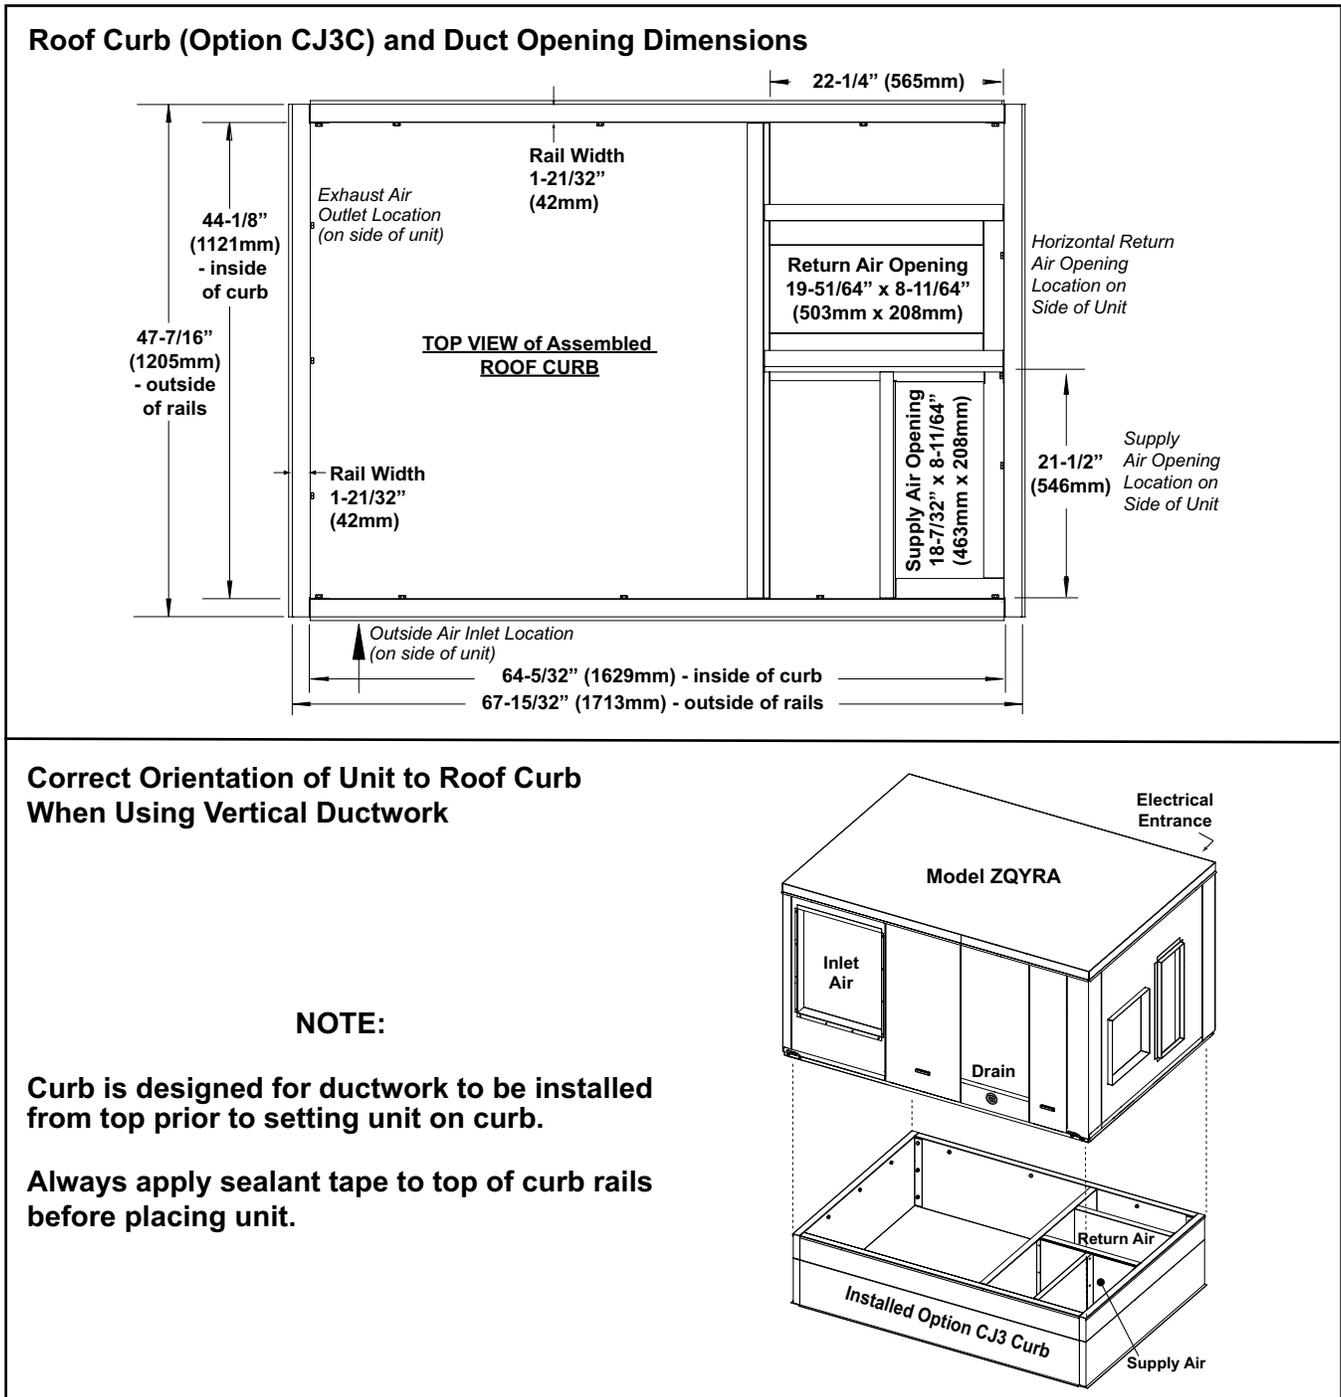

Figure 8. Roof Curb Dimensions and Orientation
- The curb is designed for ductwork to be installed from the top BEFORE the unit is in place. Slide the ductwork down into the discharge and return air openings and attach to duct flanges. See the dimensions in Figure 8. The ductwork should be sized slightly smaller with a minimum 3/4-inch duct flange that will attach to all sides of the duct connection in the curb. Refer to the Ductwork Connections section for connecting ductwork.
NOTE: IMPORTANT: Verify that the unit is being placed on the curb in the correct airflow orientation. See Figure 8 for the required orientation when installing a unit with vertical ductwork.